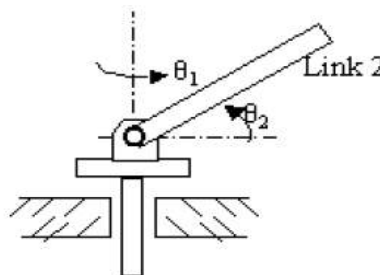

Figure1
- 5 Consider a two-degree of freedom manipulator shown in Figure 1. Assuming that the inertia of the first moving link is negligible and that the second moving link is a slender homogeneous rod of mass m , determine the dynamic equations of motion by the Lagrangian method using θ_1 and θ_2 as the generalized coordinates. [16M]